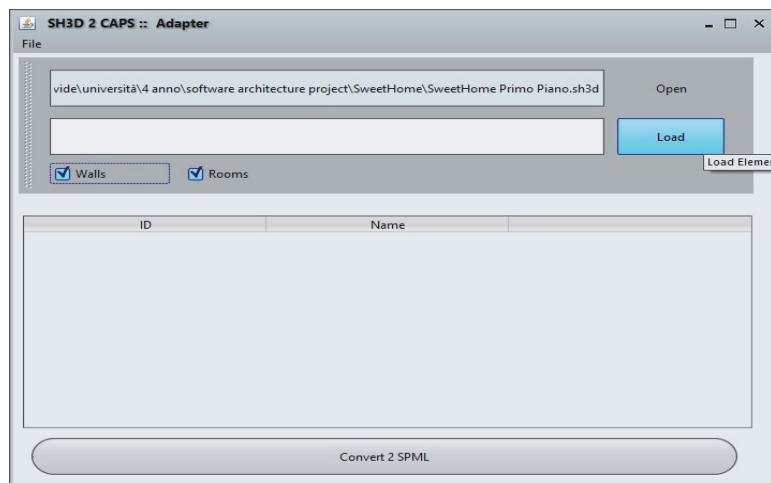

Figure 4.3: Ticking the checkboxes and clicking load
- Open it, tick the **checkbox wall** and the **checkbox rooms** and click on load (figure 4.3 and figure 4.4);
The screenshot shows the 'SH3D 2 CAPS :: Adapter' application window after the 'Load' button was clicked. The interface is identical to Figure 4.3, but the 'Load' button is now greyed out, indicating that the data has been successfully loaded. The table below the checkboxes shows the same 10 rows of door data as in Figure 4.3. At the bottom is a 'Convert 2 SPML' button.